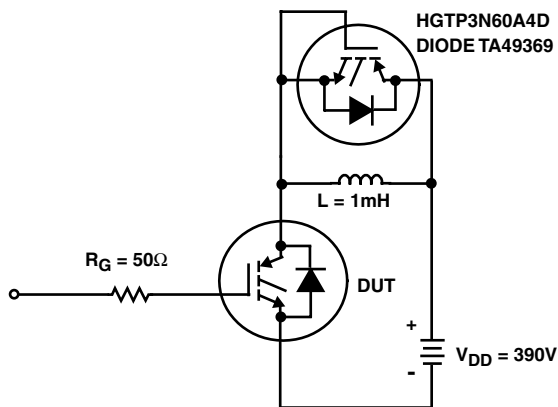

FIGURE 24. INDUCTIVE SWITCHING TEST CIRCUIT
| Current Turn-On Delay Time              | $t_{d(ON)I}$  | IGBT and Diode at $T_J = 25^\circ\text{C}$ ,$I_{CE} = 3\text{A}$ ,$V_{CE} = 390\text{V}$ ,$V_{GE} = 15\text{V}$ ,$R_G = 50\Omega$ ,$L = 1\text{mH}$ ,Test Circuit (Figure 24) | -   | 6   | -         | ns            |
| Current Turn-On Delay Time          | $t_{d(ON)I}$    | IGBT and Diode at $T_J = 125^{\circ}\text{C}$ ,$I_{CE} = 3\text{A}$ ,$V_{CE} = 390\text{V}$ , $V_{GE} = 15\text{V}$ ,$R_G = 50\Omega$ ,$L = 1\text{mH}$ ,Test Circuit (Figure 24) | -   | 5.5  | 8   | ns                          |
- Values for two Turn-On loss conditions are shown for the convenience of the circuit designer.  $E_{ON1}$  is the turn-on loss of the IGBT only.  $E_{ON2}$  is the turn-on loss when a typical diode is used in the test circuit and the diode is at the same  $T_J$  as the IGBT. The diode type is specified in Figure 24.